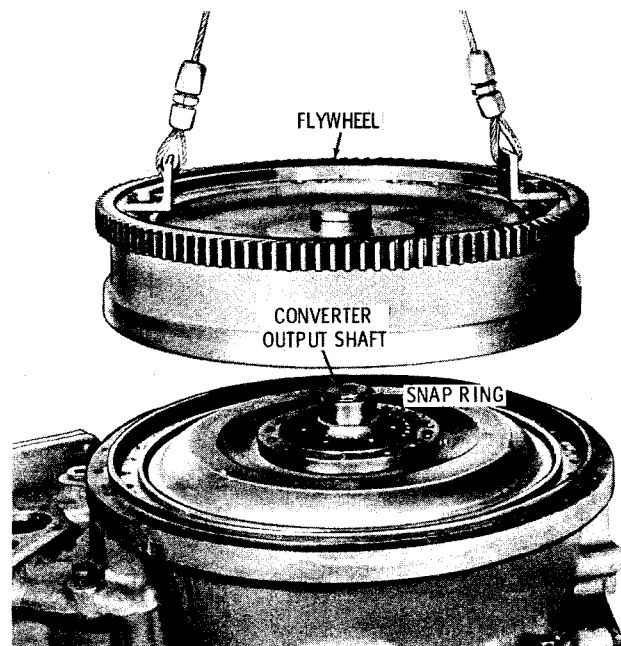

Fig. 5-14. Removing flywheel (direct-mount models)
(5) Remove the flywheel (fig. 5-14) or converter drive cover (fig. 7-43). Refer to paragraph 6-9 for rebuild of the flywheel. Refer to paragraph 6-10 for rebuild of the converter drive cover.
(6) Remove the snapping from the converter output shaft (fig. 5-14).